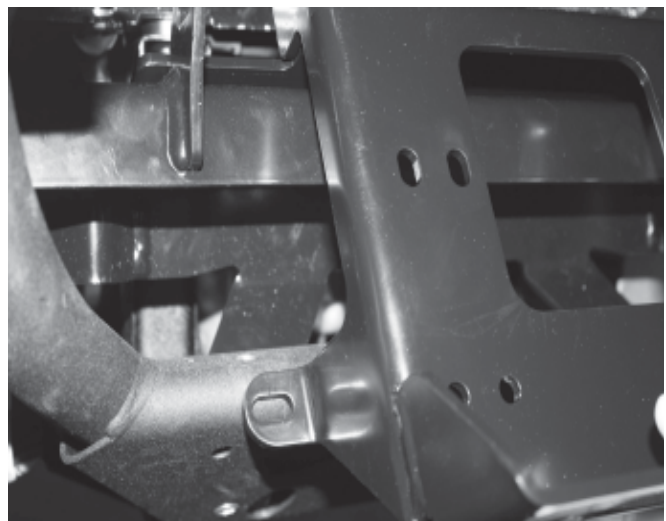

Figure 9
11. If installing the winch mounting plate with the Warn front plow mounting plate, place the front plow mounting plate into the frame as shown in figure 9. Tilt the front plow mounting plate forward and slip the winch mounting plate rear flange behind the plow mounting plate. Both mounting plates will then slip into place.